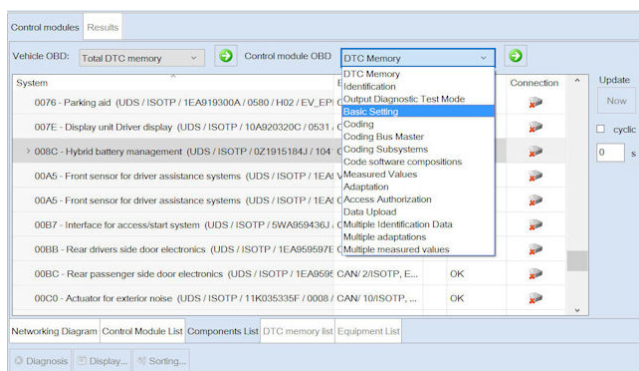
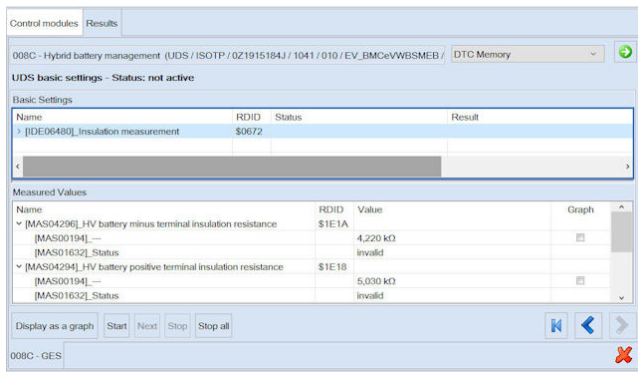

Figure 2.
Figure 3.
2. Open and secure the HV maintenance connector (TW) – HV switch-on prevented.
4. Navigate to Self-diagnosis (OBD) in ODIS (see Figure 2).
9. Select “start” to run the function and observe “status” and “result” and values in MVB section (see Figures 3 through 5).
12. Close maintenance connector (TW).
The high-voltage component wires must be sprayed/drizzled over short sections at all other points (see Figure 2 or Figure 3, orange high-voltage component wires).